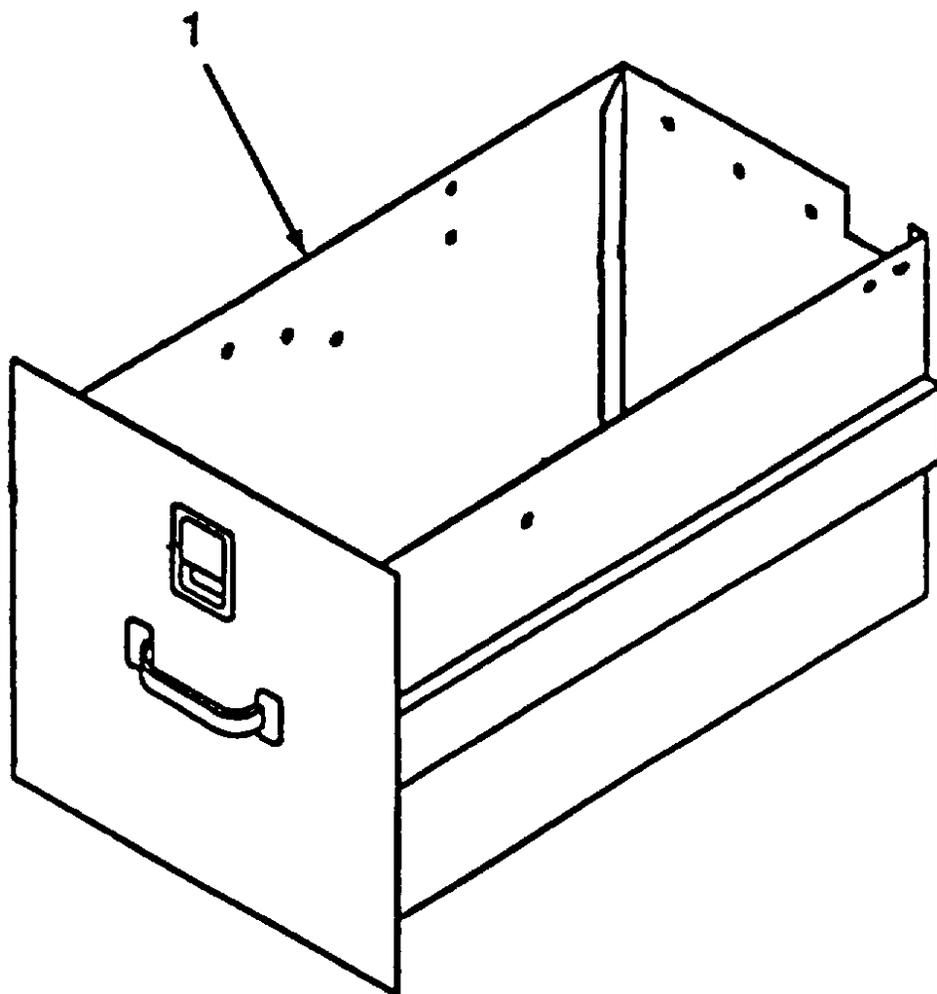

Figure 5-6. Battery Box
- a. Repair. (Refer to Figure 5-6).
- (1) Thoroughly flush out battery box (1) with dry-cleaning solvent. Observe all warnings listed above.
- (2) Inspect all sheet metal parts for cracks or broken weldments, dents or distortion. Repair as required.
- (3) Clean off corrosion with wire brush, then repaint in accordance with TM 43-0139.
- (4) Fix Dents as needed. (Reference FM 43-2).
- (5) Weld cracks as needed. (Reference TM 9-237).